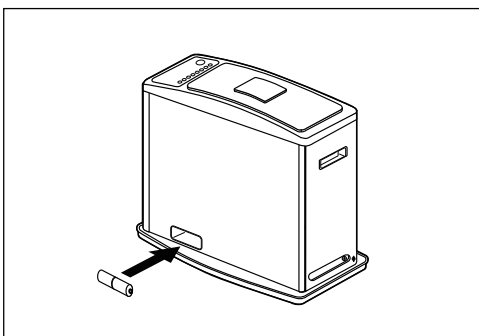
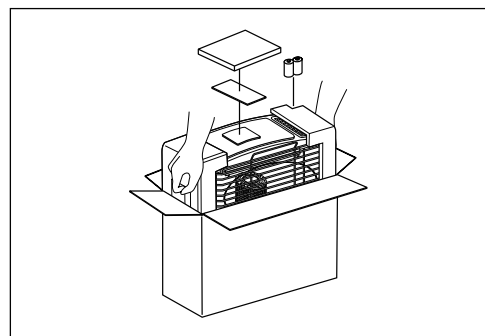

Fig. 12
Fig. 13
Carefully following the instructions for storage given below will insure that your heater will operate efficiently and safely next season (Fig. 12/ Fig. 13).
- Remove the batteries (Fig.12) from the battery case before storing the heater to prevent leakage and corrosion. Remove the 5 cabinet screws and lift off they the cabinet and grille assembly. Remove the burner. Remove the wick adjuster from the fuel reservoir. Thoroughly dry the Inside of the fuel tank. Using a screwdriver and/or a brush, remove any carbon, tar or soot that might have accumulated on the wick adjuster, wick guide or burner.